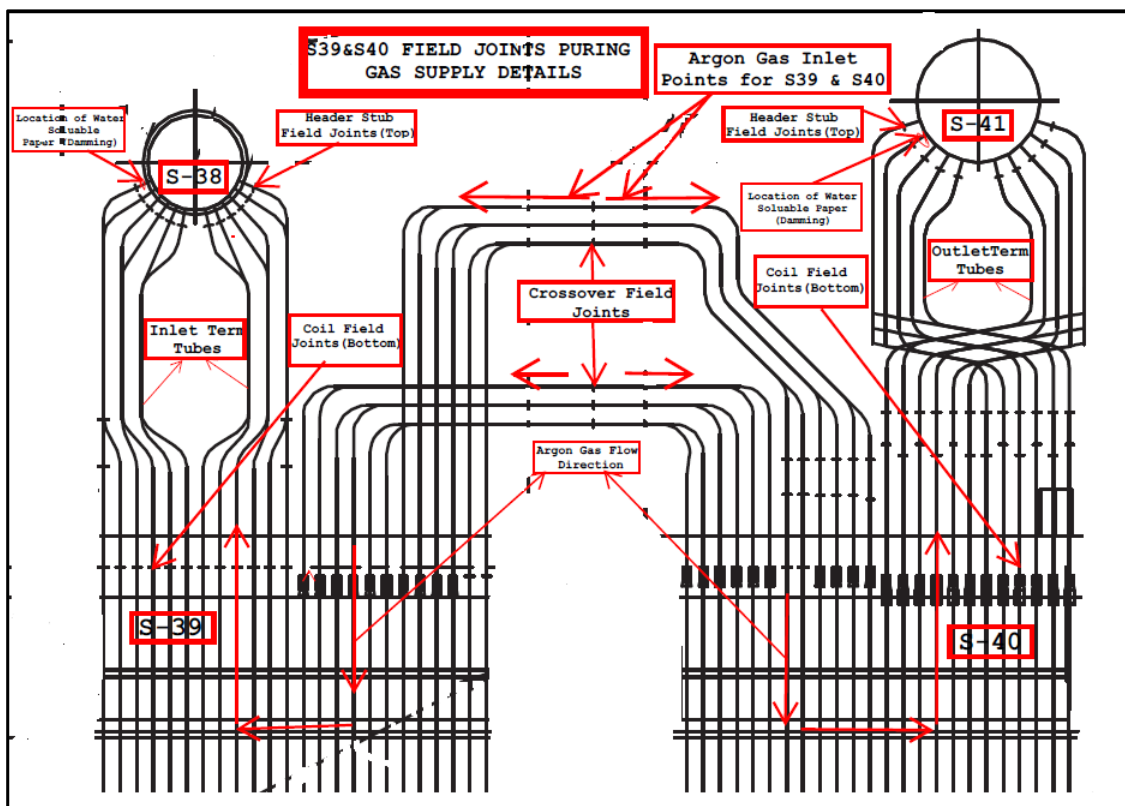

Figure B3.2: Purging Arrangement for SH Header Field Joints
- 3.3.1 Argon gas with requisite quality shall be used for purging the root side of weld. The purging dam (water soluble paper) shall be fixed on header nipple side of the weld bevel prior to fit-up and pre-heating. Purging is to be done from cross over tube downstream end. (Refer Figure B3.2 and B3.3). Ensure that atmospheric air is completely purged out through the root gap before starting welding and welding can be continued with Argon backing. The flow rate which shall be maintained for purging is 6 to 8 litres per minute.